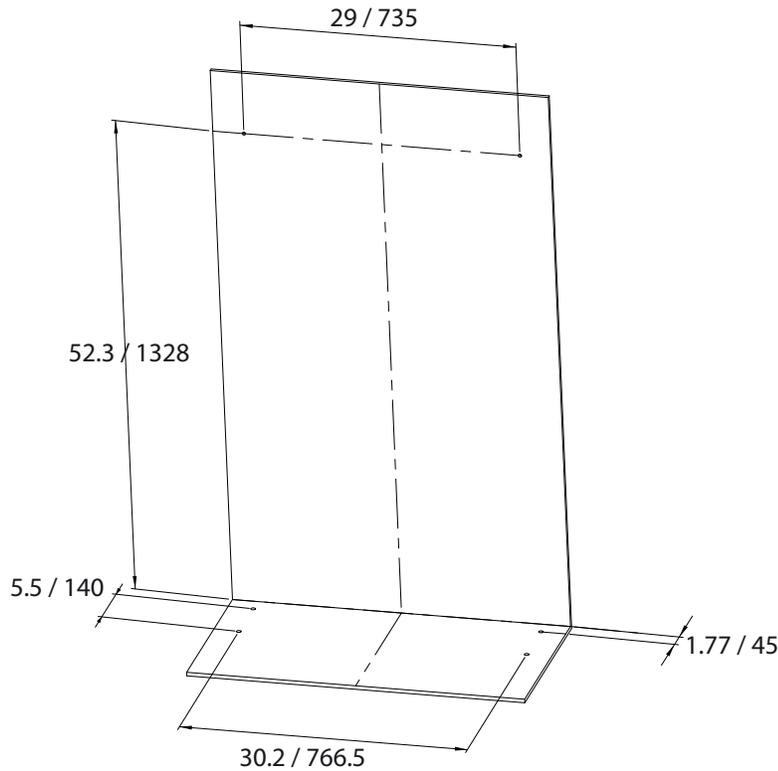

Figure 7: Drilling separation (in In/mm)
- Minimum clearances to be observed during assembly: see Figure 6 on page 14 and Figure 7 on page 15.